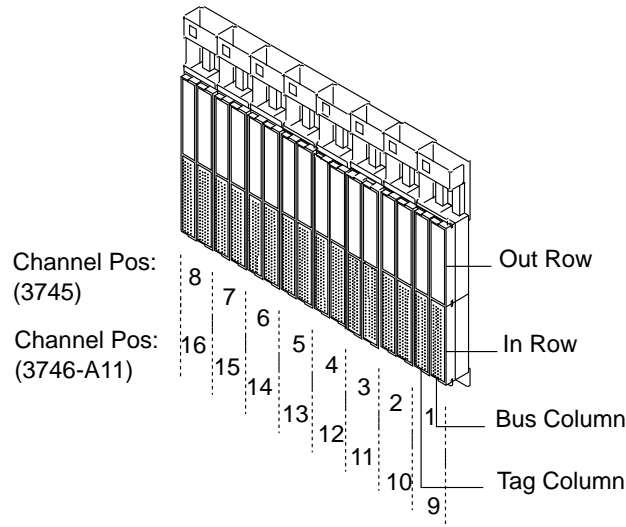

Figure 8-2. Channel Interface
- e. When asked by the diagnostic, **install** the BUS and TAG wrap tools in the IN row (dark gray) of the CA interface being tested (see Figure 8-2). Then type **R** and press **SEND**.
- a. **Install the cable connectors** for channels 1 through 8 to the 3745 tailgate at 01T-A0 (for tailgate positions, refer to Figure 8-2 on page 8-7). If TPS is installed (interface B present), refer to Figure 8-3 on page 8-7 for interface distribution.